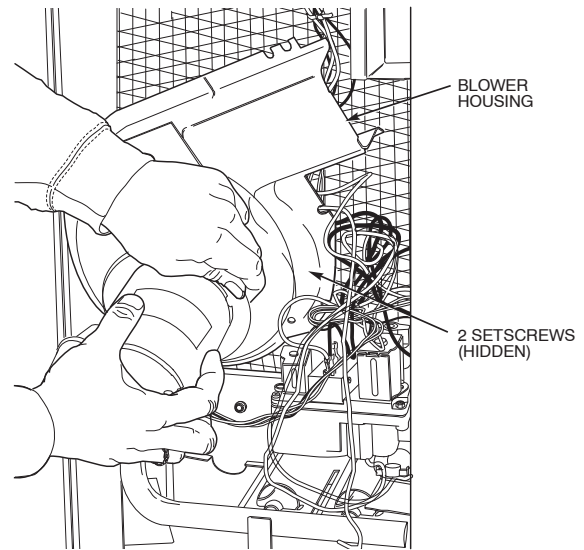

Fig. 21 - Removal of Motor and Blower Wheel
3. Slide the assembly out of the unit. (See Fig. 21). Clean the blower wheel. If additional cleaning is required, continue with Steps 4 and 5.